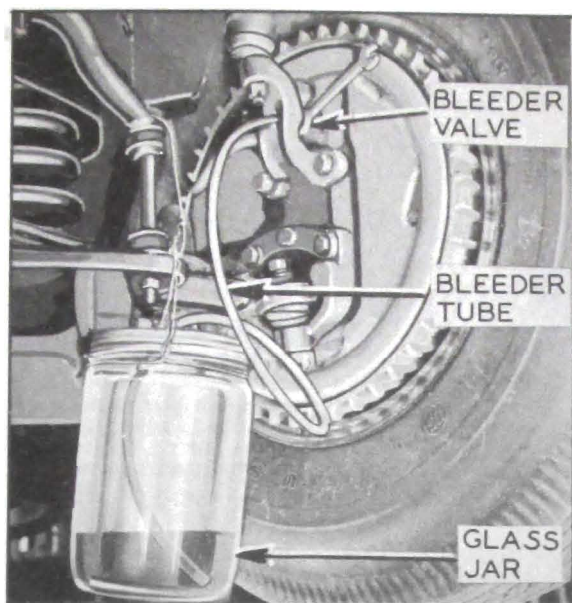

Figure 9-6—Bleeding Front Wheel Cylinder
2. Remove cover and slip a brake bleeder tube over ball of wheel cylinder bleeder valve. Place lower end of bleeder tube in a clean glass jar. Unscrew bleeder valve $\frac{3}{4}$ of a turn. See figure 9-6.
3. Remove cover and slip a brake bleeder tube over ball of wheel cylinder bleeder valve. Place lower end of bleeder tube in a clean glass jar. Unscrew bleeder valve $\frac{3}{4}$ of a turn. See figure 9-6.